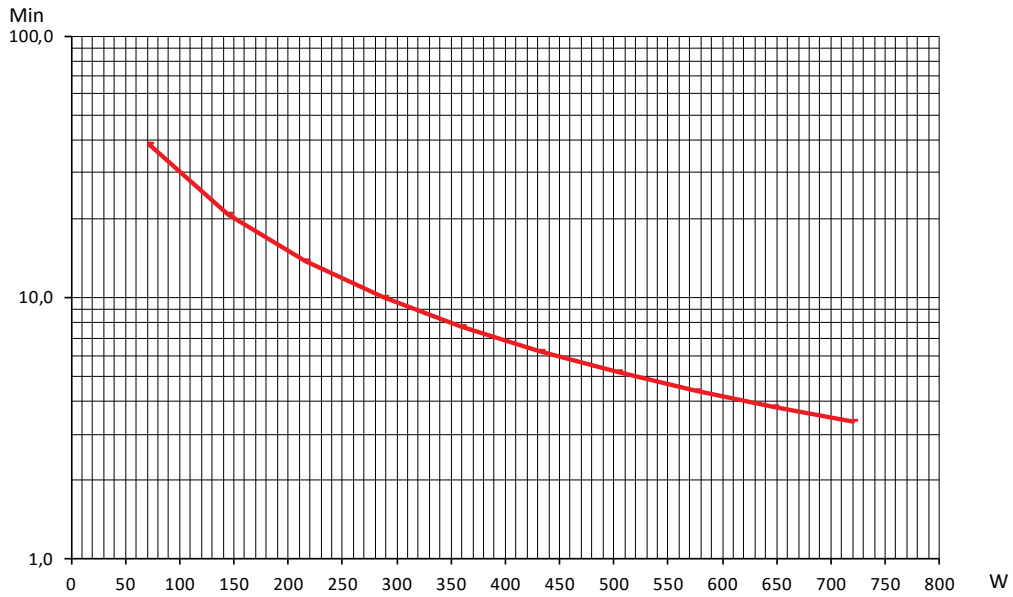

Figure 4. Runtime Graph INFO1200S / INFOLCD1200I
4. Check whether the discharge time corresponds to the values given in figures 4 to 10. If the discharge time decreases by more than 50%, replace the batteries.